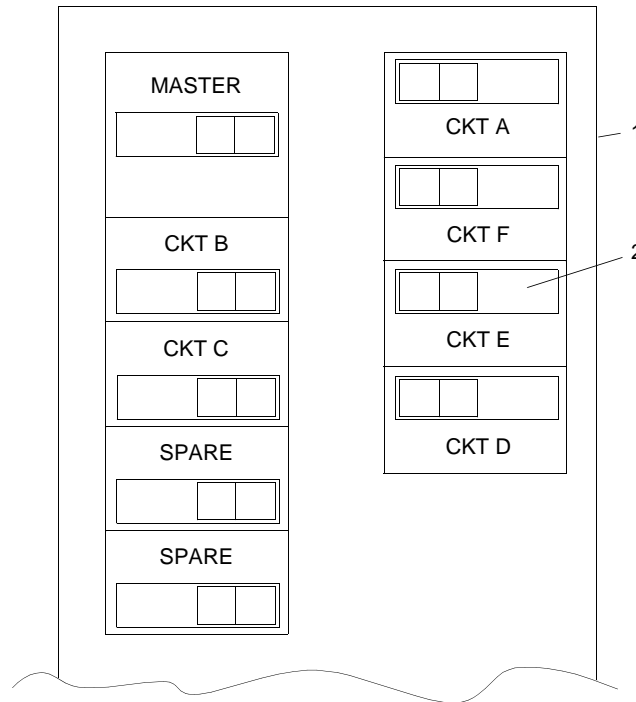

Figure 1. Circuit Breaker E
1. At the personnel shelter electrical distribution panel (figure 1, item 1), position circuit breaker E (figure 1, item 2) to OFF (open) and tag out (FM 55-502).